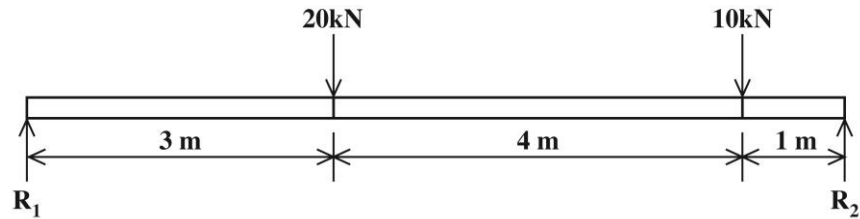

Figure 1. Supported beam
1. Figure 1 shows a simply supported beam with two concentrated loads of 20 kN and 10 kN.